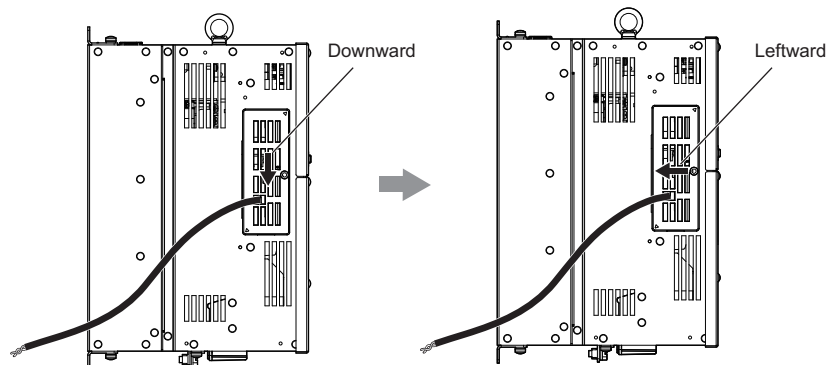

Figure 4.39 Sliding the CN19 Connector Cover into Place
6. Slide the CN19 connector cover back into place as shown in Figure 4.39.